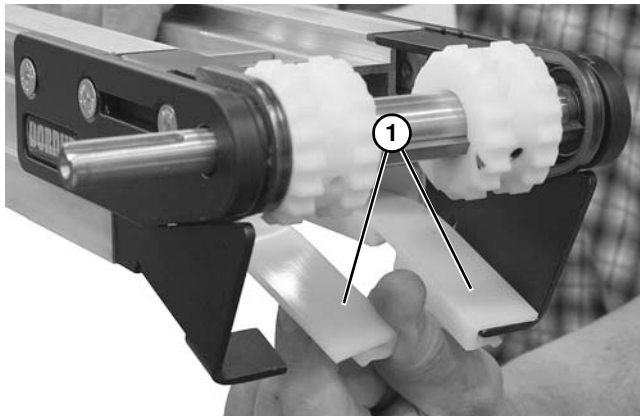

Figure 88
3. Remove lower wear strips (**Figure 88, item 1**).